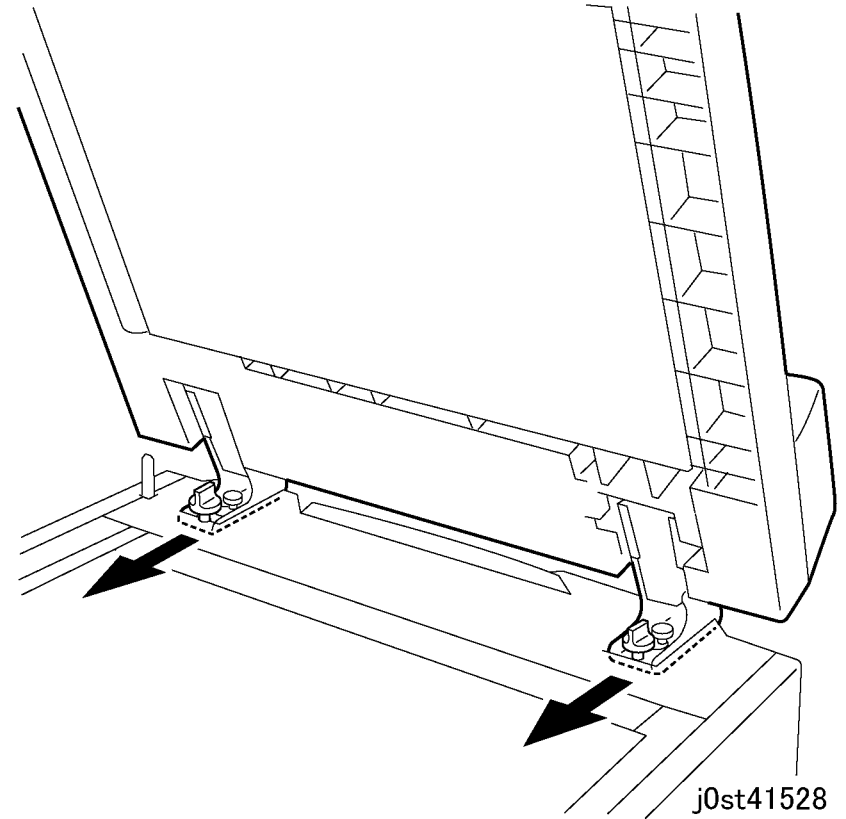

Figure 3 Installing the DADF
1. When installing the DADF, push the DADF to the front, then secure. (Figure 3)